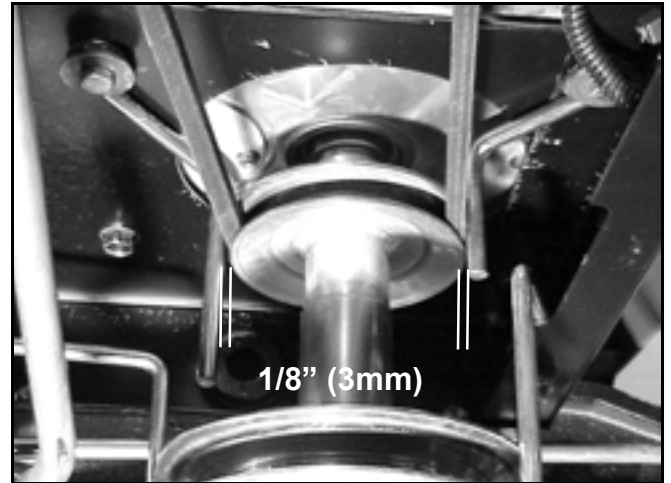

Figure 133
5. Adjust and tighten both the right and left engine belt guides. They should be adjusted so they are within 1/8" (3mm) of the engine pulley (Figure 133).